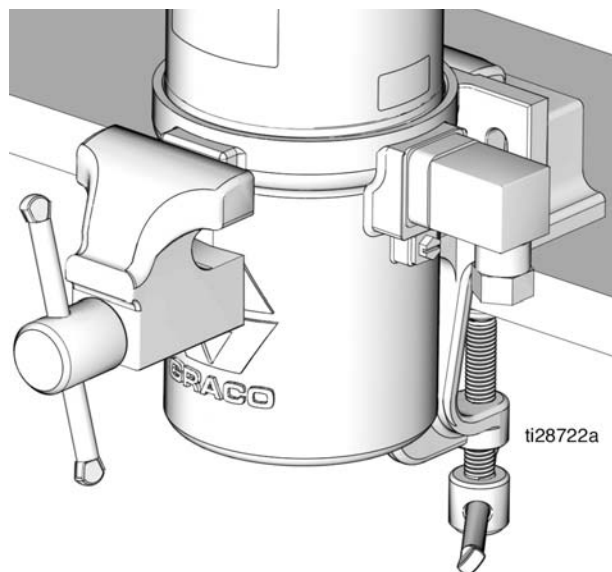

FIG. 13
8. Clamp the air motor cylinder (3) in a vise as shown in FIG. 13. Use a soft-jaw vise or place a rag in the vise jaws to protect the surface of the pump base.